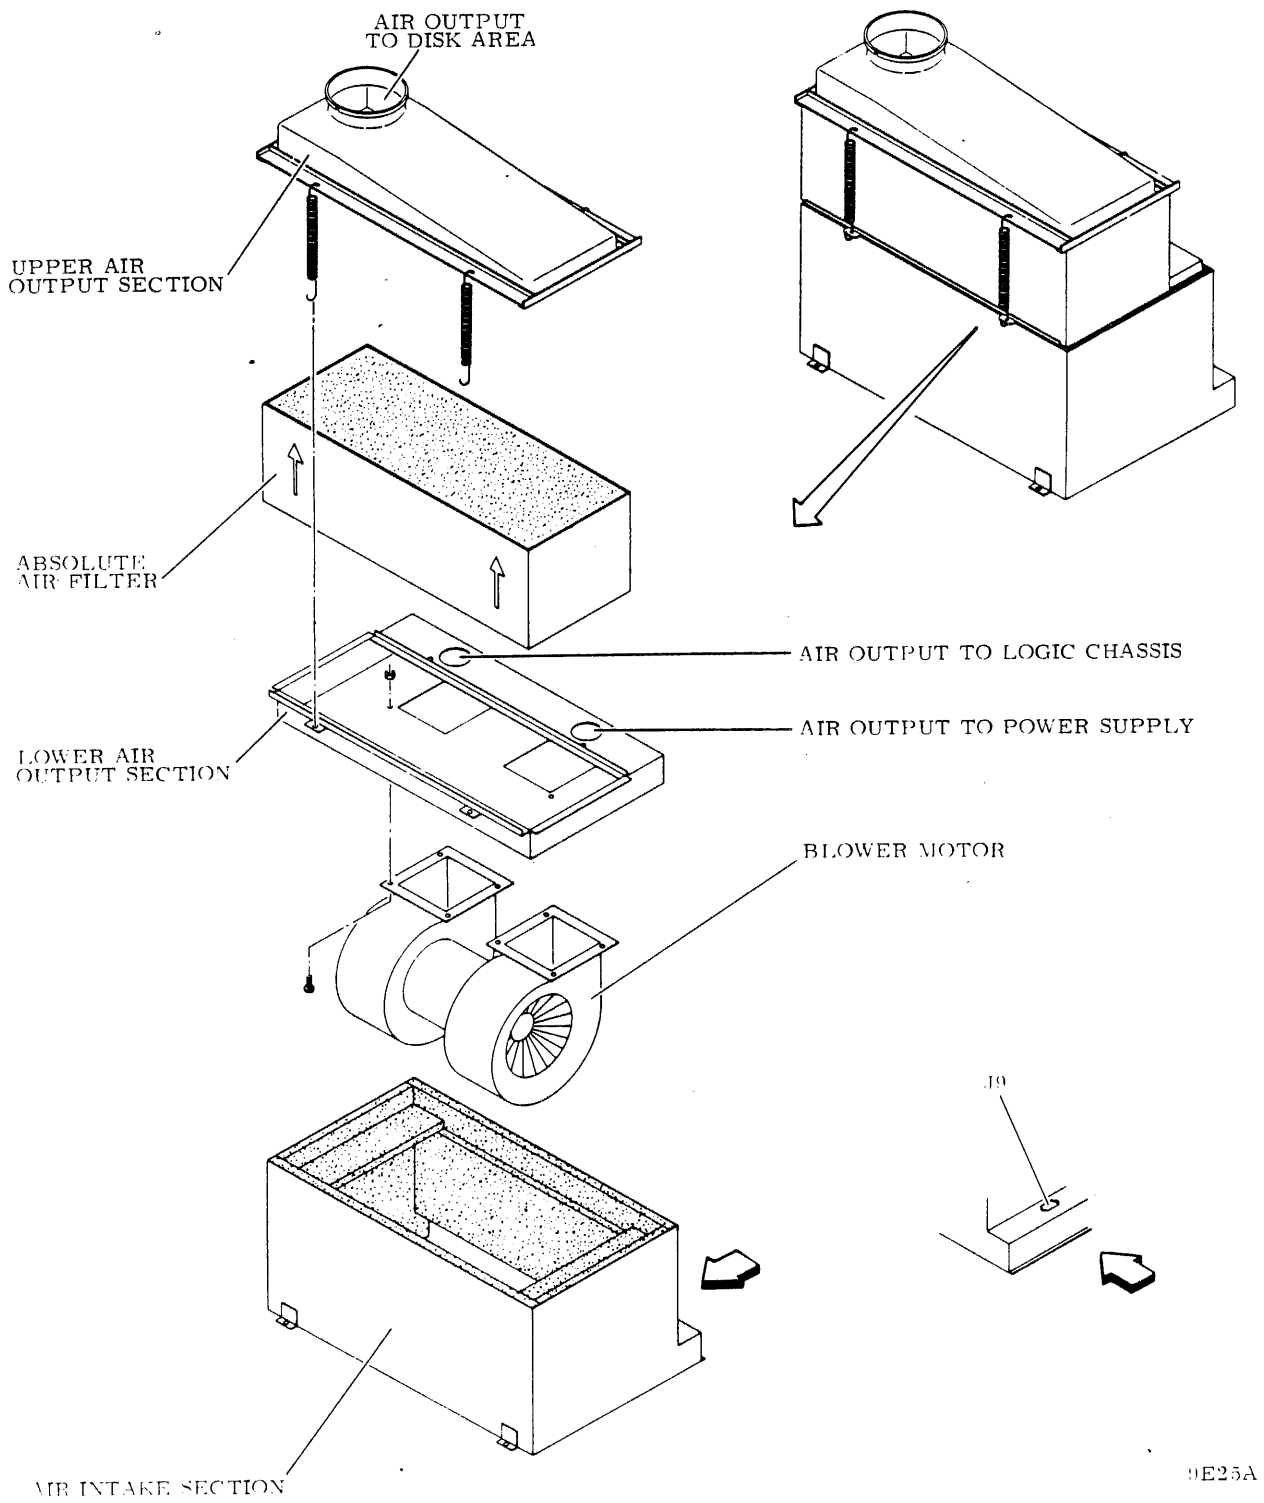

Figure 6-5. Blower Motor Replacement
The blower motor is located within the blower assembly as shown in figure 6-5. Replacing the motor requires removing the entire blower assembly from the drive. The following describes removal and replacement of the blower motor.
- b. Connect small air hoses to rear of lower air output section. (Refer to figure 6-5 for proper orientation).